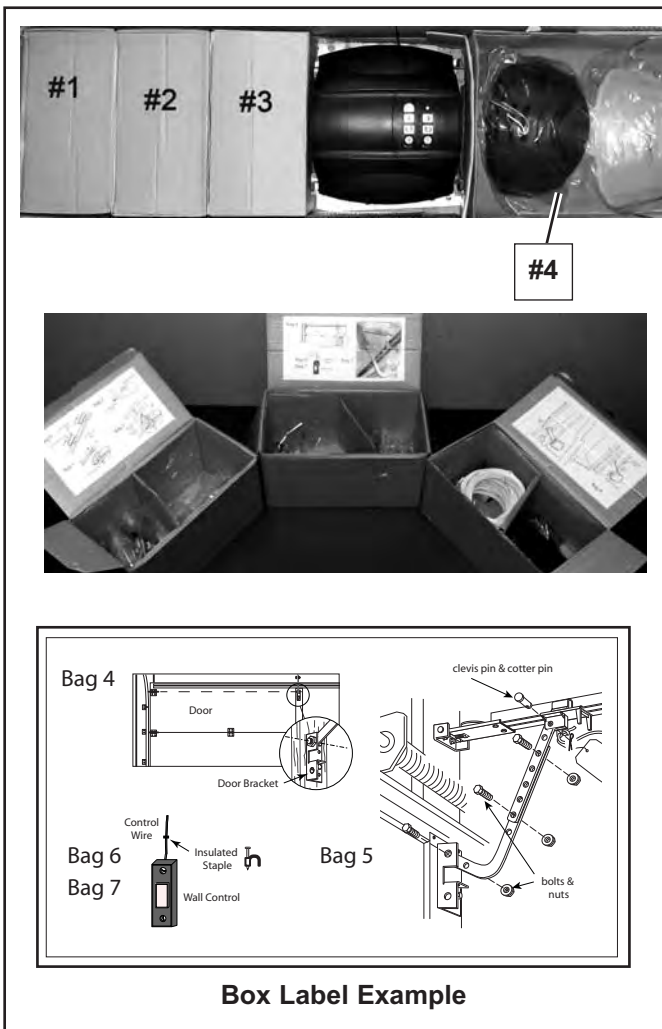

FIG. 1-1 Internal boxes.
1. There are 4, or more, boxes inside the carton. Each box is numbered 1 - 4. *Note that some openers will contain the same parts and be packaged with fewer boxes. Carefully remove the three internal boxes (Labeled #1, 2, and 3) and place them on the floor for easy access (Fig. 1-1).* These boxes contain assembly parts and the contents are organized by assembly tasks. For quick reference inside the lid of each box there is a label illustrating the components inside.